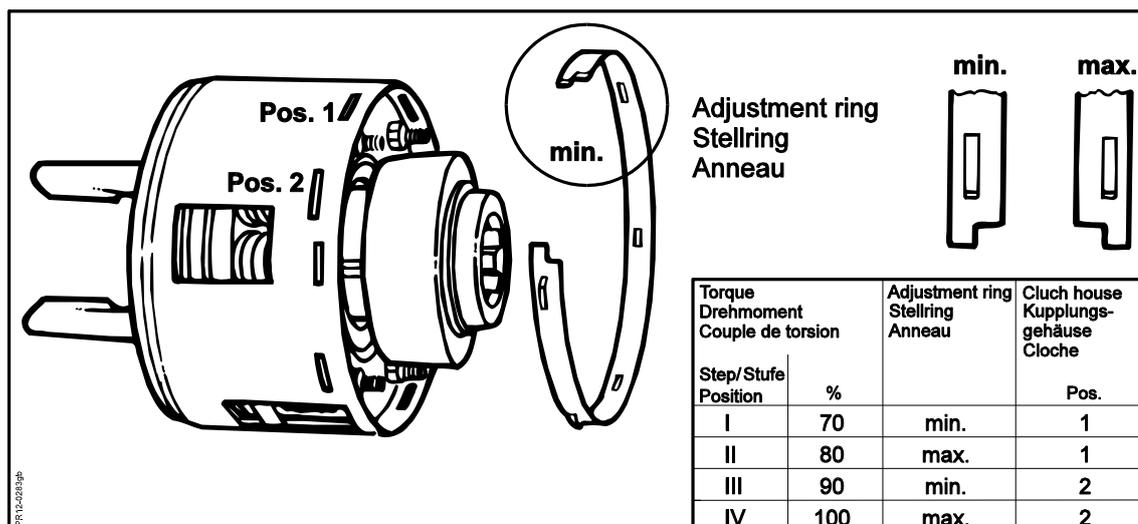

Fig. 7-4
**Fig. 7-4** The torque in the friction clutch is adjustable. However, you should not change the factory-set adjustment until you have contacted the dealer or the factory's Service Department.